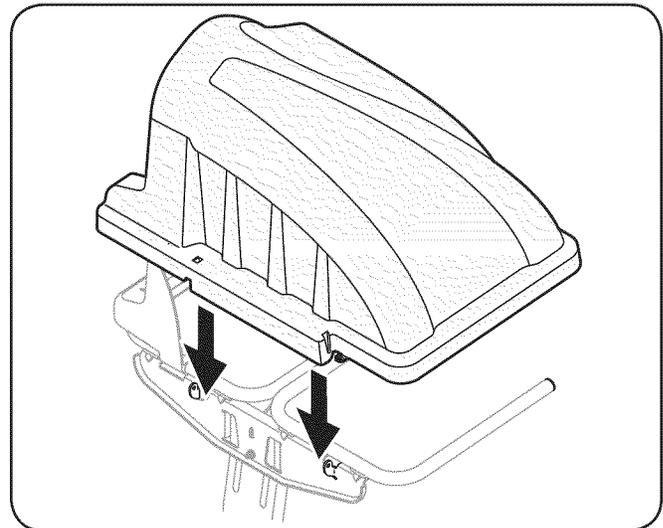

Figure 4-10
5. Install the bagger cover onto the bag support assembly, as seen in Fig. 4-10. The plastic cover goes inside of the two mounting tabs.